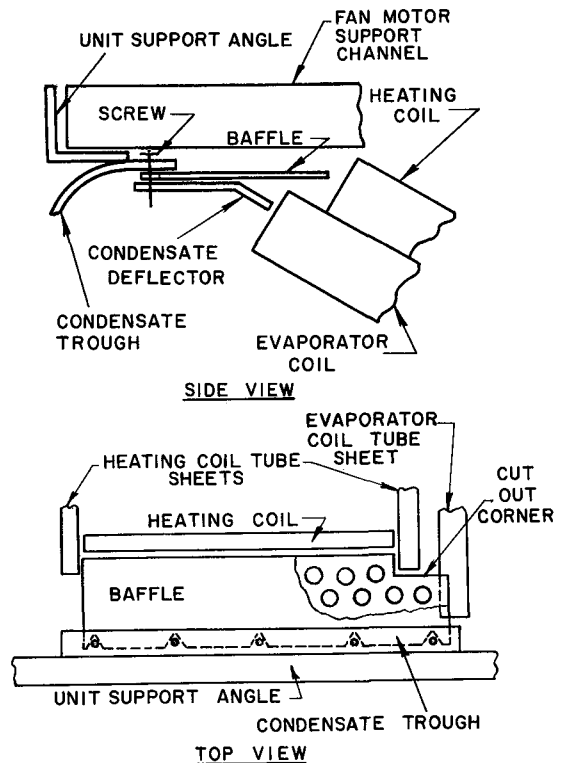

Fig. 6 — Heating Coil Baffle
Heating Coil Baffle — Install heating coil baffle to reduce amount of air bypassing the coil. Locate baffle across the front of the unit under motor mounting channel (Fig. 6).
- Cut out upper corner of baffle as shown in Fig. 6. To be effective, baffle must extend the full length of the evaporator coil.